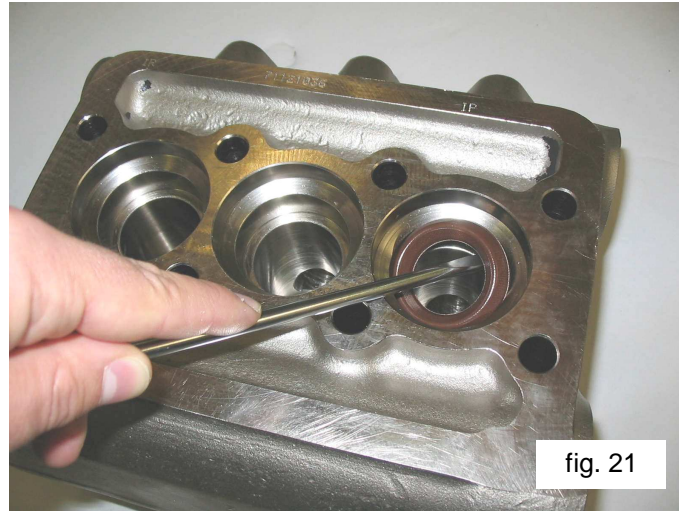

fig. 21
C) Extract the high pressure seals from the head and the low pressure ones from the support, using simple tools as indicated in fig. 21, being careful not to damage the respective seats.